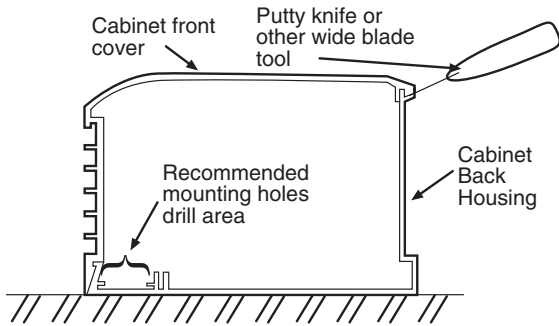

Fig. 1
16. To avoid damaging heater, do not use a screw driver to separate front cover from back housing. Use only a putty knife as shown, see Fig. 1
2. Remove front cover by laying the heater on its back and inserting a putty knife (or other thin, wide blade tool, 1" [25mm] wide minimum) approximately 6" (152mm) from the end of the heater and prying up as shown in Fig.1. This will spring the snap lock closure open. Repeat as required down the length of the heater until the front cover completely disengages from the heater back.
4. Drill the required size mounting holes in the heater housing (See Fig. 1 for recommended mounting hole location.)
5. Drill the required size mounting holes in all the heater housings. (See Fig. 1 for recommended mounting hole location.)